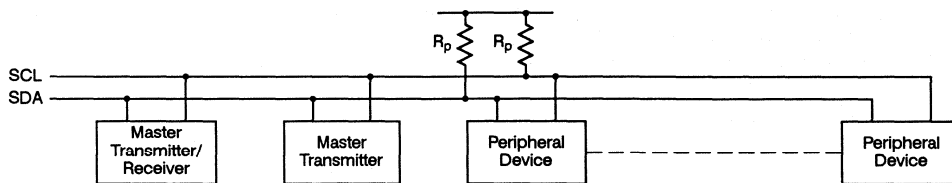

Figure 5.
R_p value depends on (1) number of devices on bus, (2) total bus capacitance, (3) supply voltage (Figure 5).